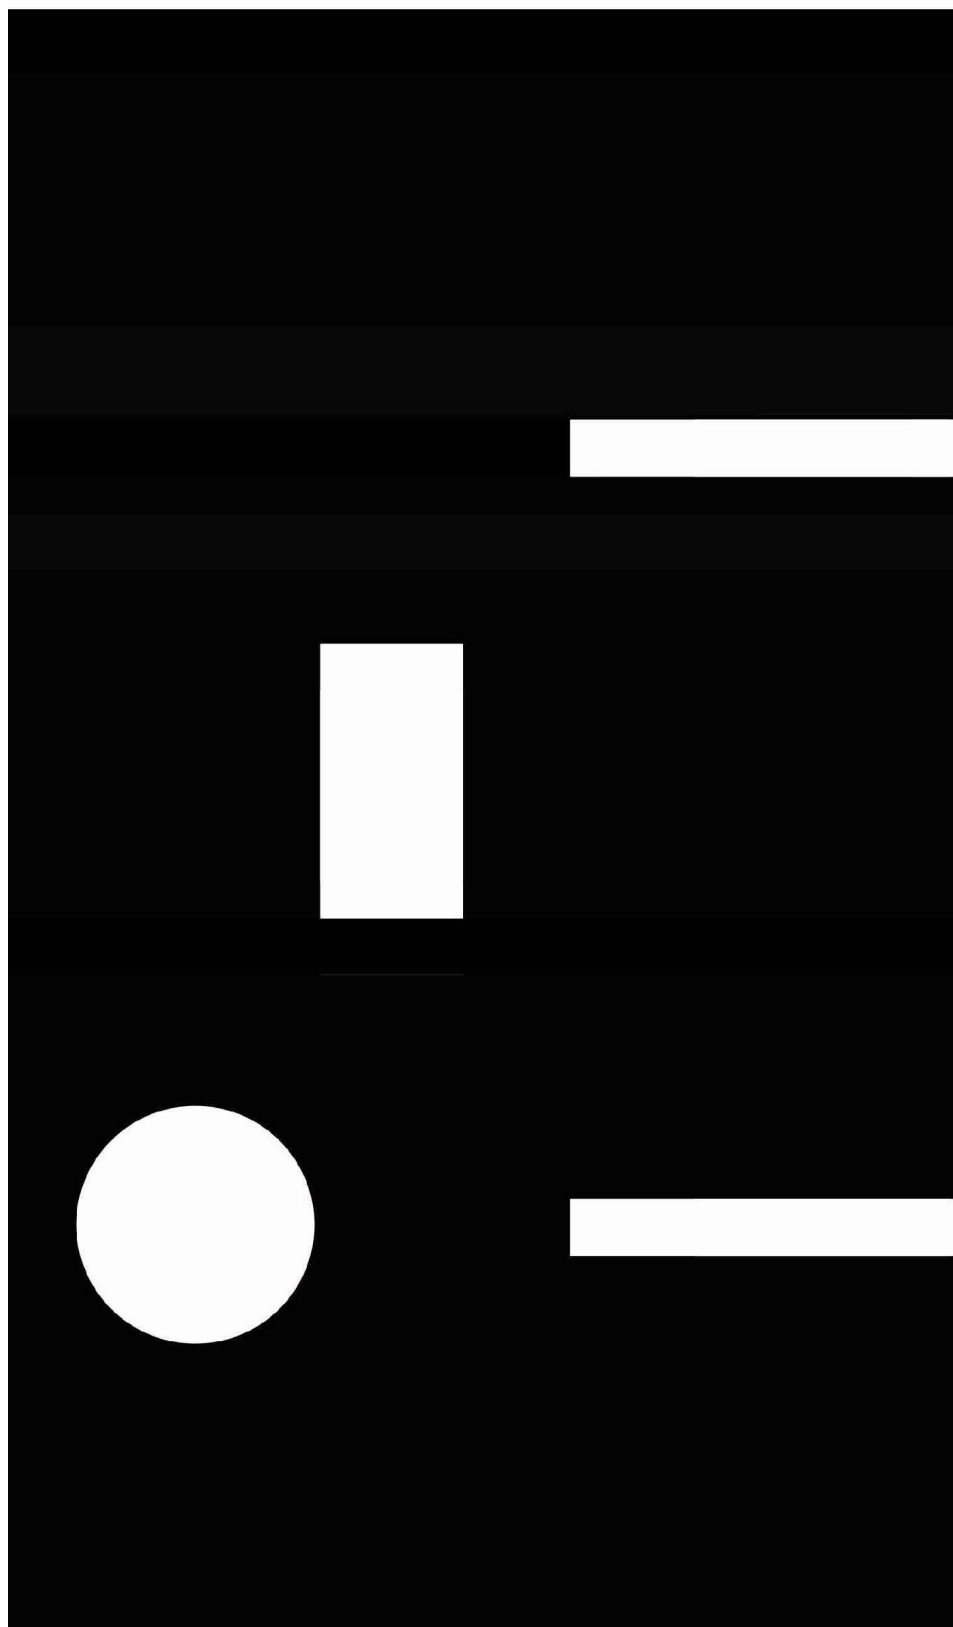

Figure 17: Cutout. Template for sidemount photomultiplier cardboard tube.
1. **Before you can glue the scintillator and the photomultiplier together you have to cut out the cardboard tube.** It must be cut out to the specifications in Figure 17. Get a piece of paper and cut it out to Figure 17's specifications.